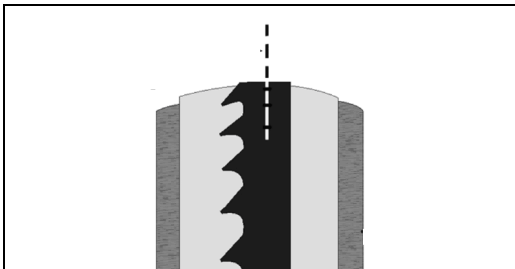

Fig 23
3. Remove the Rip fence guide (B) from the front of the table by releasing the 4 winged screws (C).
4. Release the blade tension by turning the large knob (D).
5. Remove the sawblade (E) by feeding it through the slot in the table, upper blade guides and guard and the slot in the spine of the machine taking care not to cut yourself, wear gloves if necessary.
7. Re-tension the new blade and check the blade tracking by turning the upper wheel by hand. The blade should run in the centre of the bandwheel. (see Fig 23)